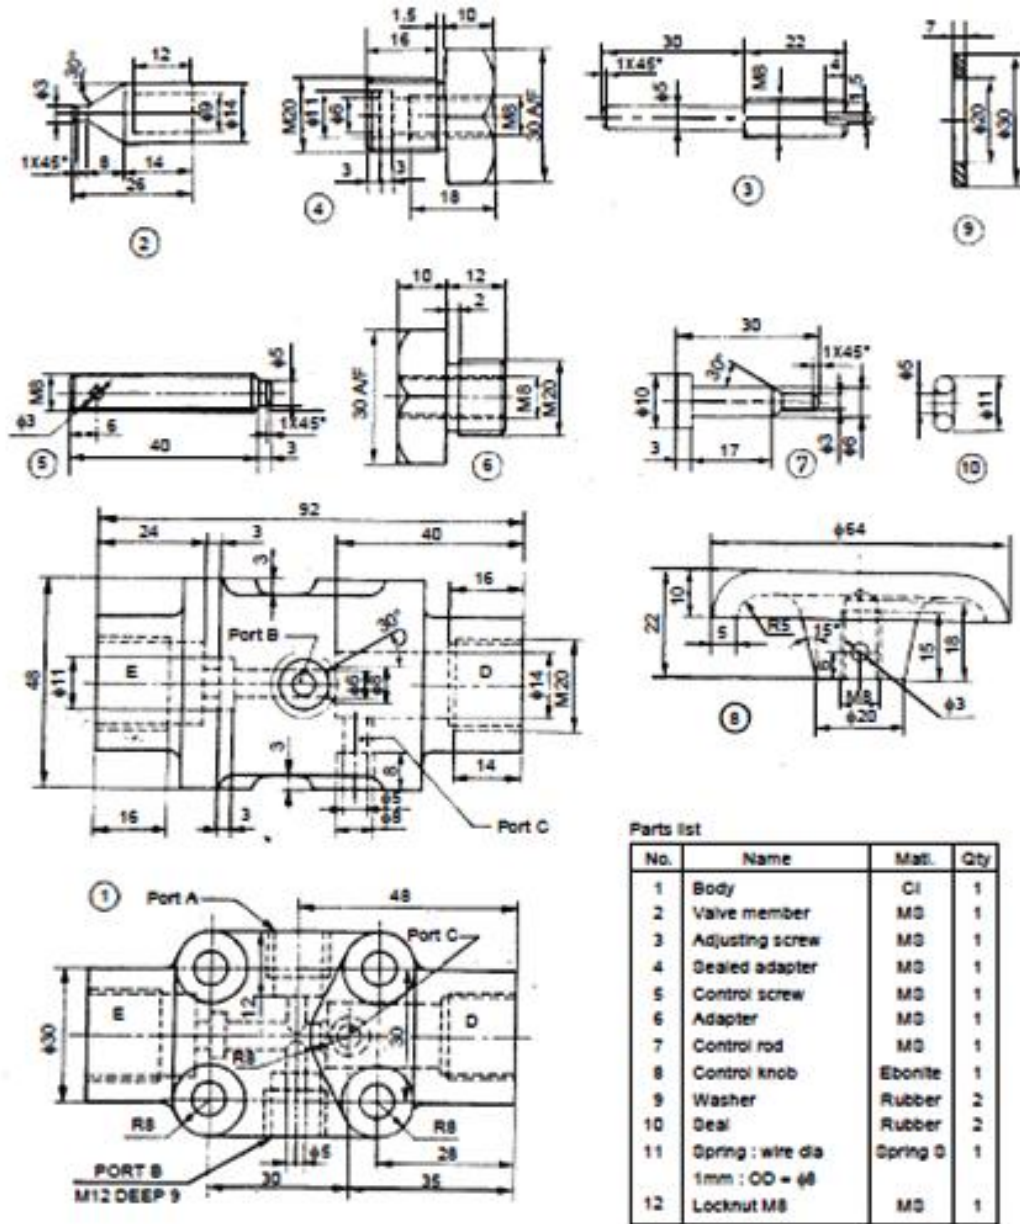

Fig.6
6. Figure 6. shows the details of a pressure relief valve. Assemble the parts and draw to full size, (i) the view from the front and (ii) sectional view from above. **(For Batch: 4MB3)**